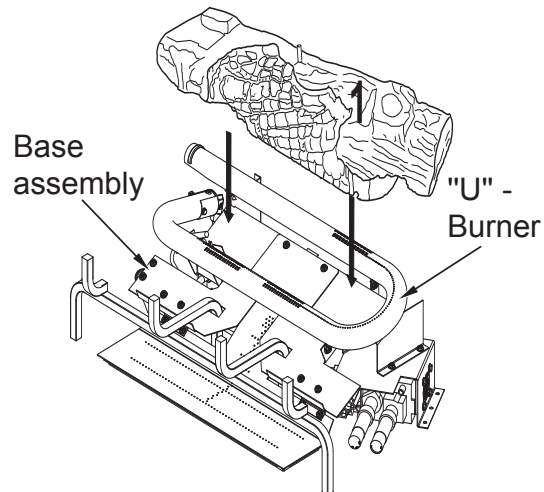

Figure 22 - Installing Log # 1
1. Place the rear log (#1) on base assembly as shown in **Figure 22**. Log will fit over right end of burner and rest in middle of U-burner.